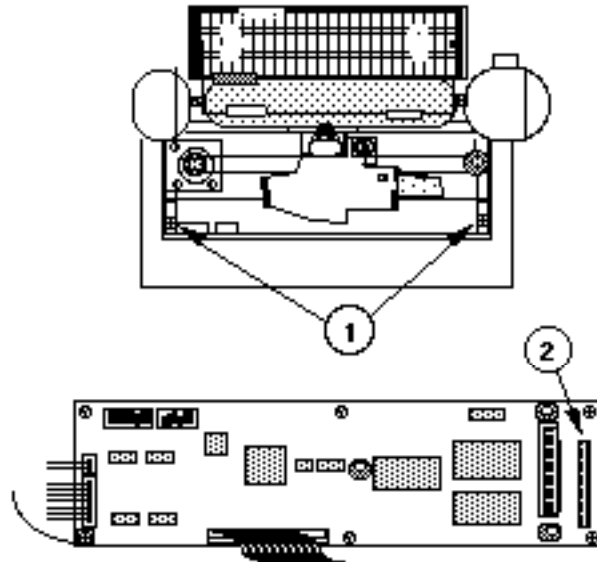

FIGURE 9
7. Loosen the two screws (Figure 9, #1) that secure the front cover , and remove the cover .
8. Be sure to detach the control panel cable from its connector (Figure 9, #2) on the right side of the main logic board.